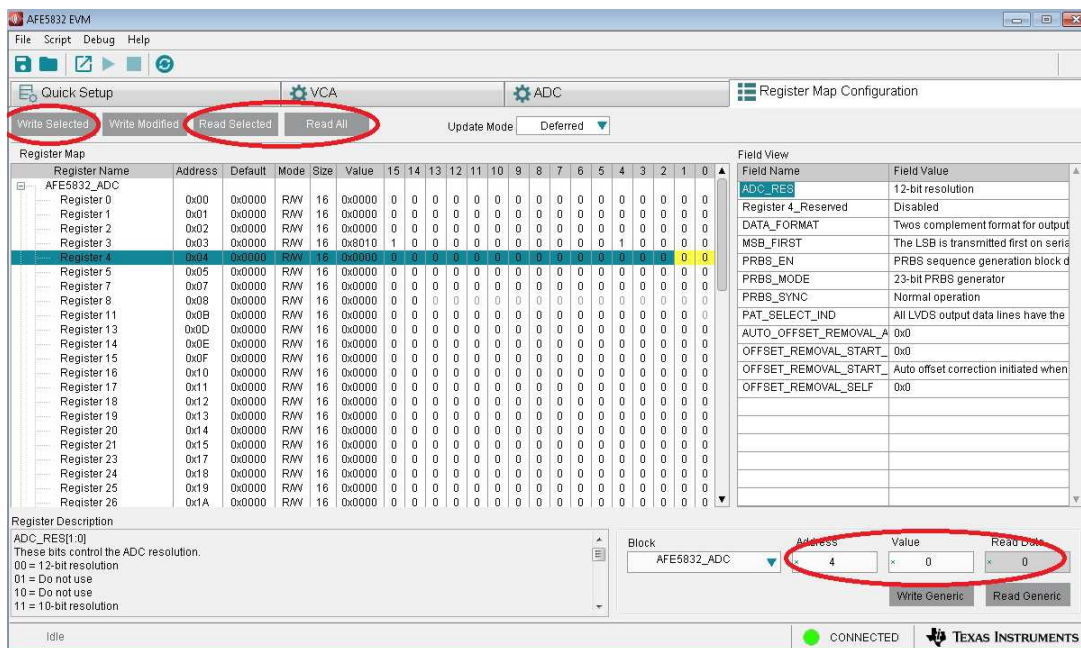

Figure 56. AFE5832: Register Map Configuration: Immediate Update Mode
1. *Read Selected*: Clicking this option in the top left-hand corner displays the value contained in the register in the *Read Data* field in the lower right-hand corner of the GUI. In the same area of the GUI, the *Address* field will display the address of the selected register, and the *Value* field will display the value contained in that register as shown in Figure 56.